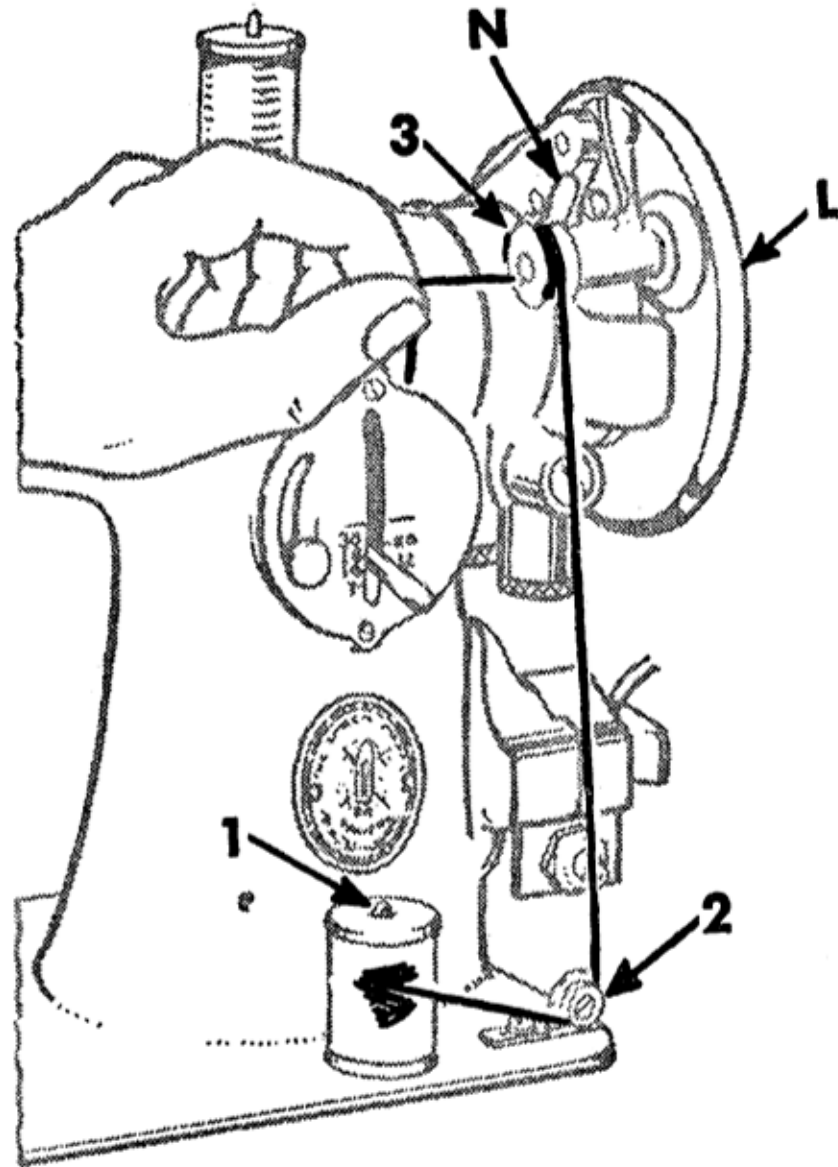

Fig. 11. Winding the Bobbin
See Fig. 11
2. Lock bobbin in place by pressing bobbin winder down until latch N, Fig. 11 engages.
5. Hold end of thread as shown in Fig. 11 and press controller as for sewing. Continue to hold end of thread until it breaks off.
If pressure of bobbin winder pulley against hub of hand wheel is insufficient for winding the bobbin, press down bobbin winder until latch **N**, Figs. 11 and 12 drops and holds it in position.
screw **O**. If thread does not wind evenly on bobbin, loosen screw which holds tension bracket **2**, **Fig. 11** in position.